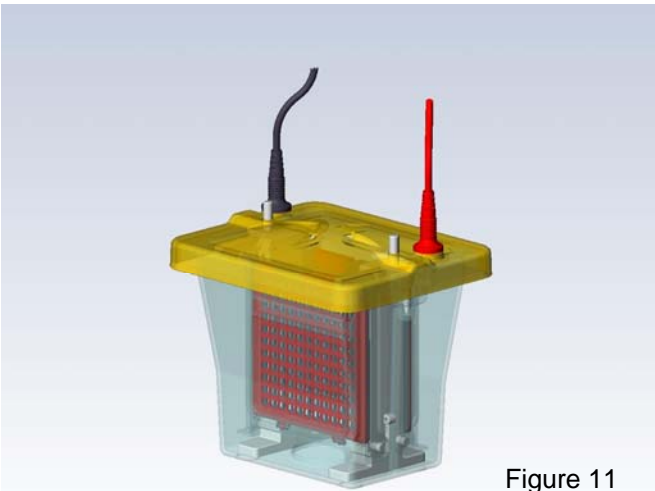

Figure 11
- Attach safety cover, as shown in figure 11.